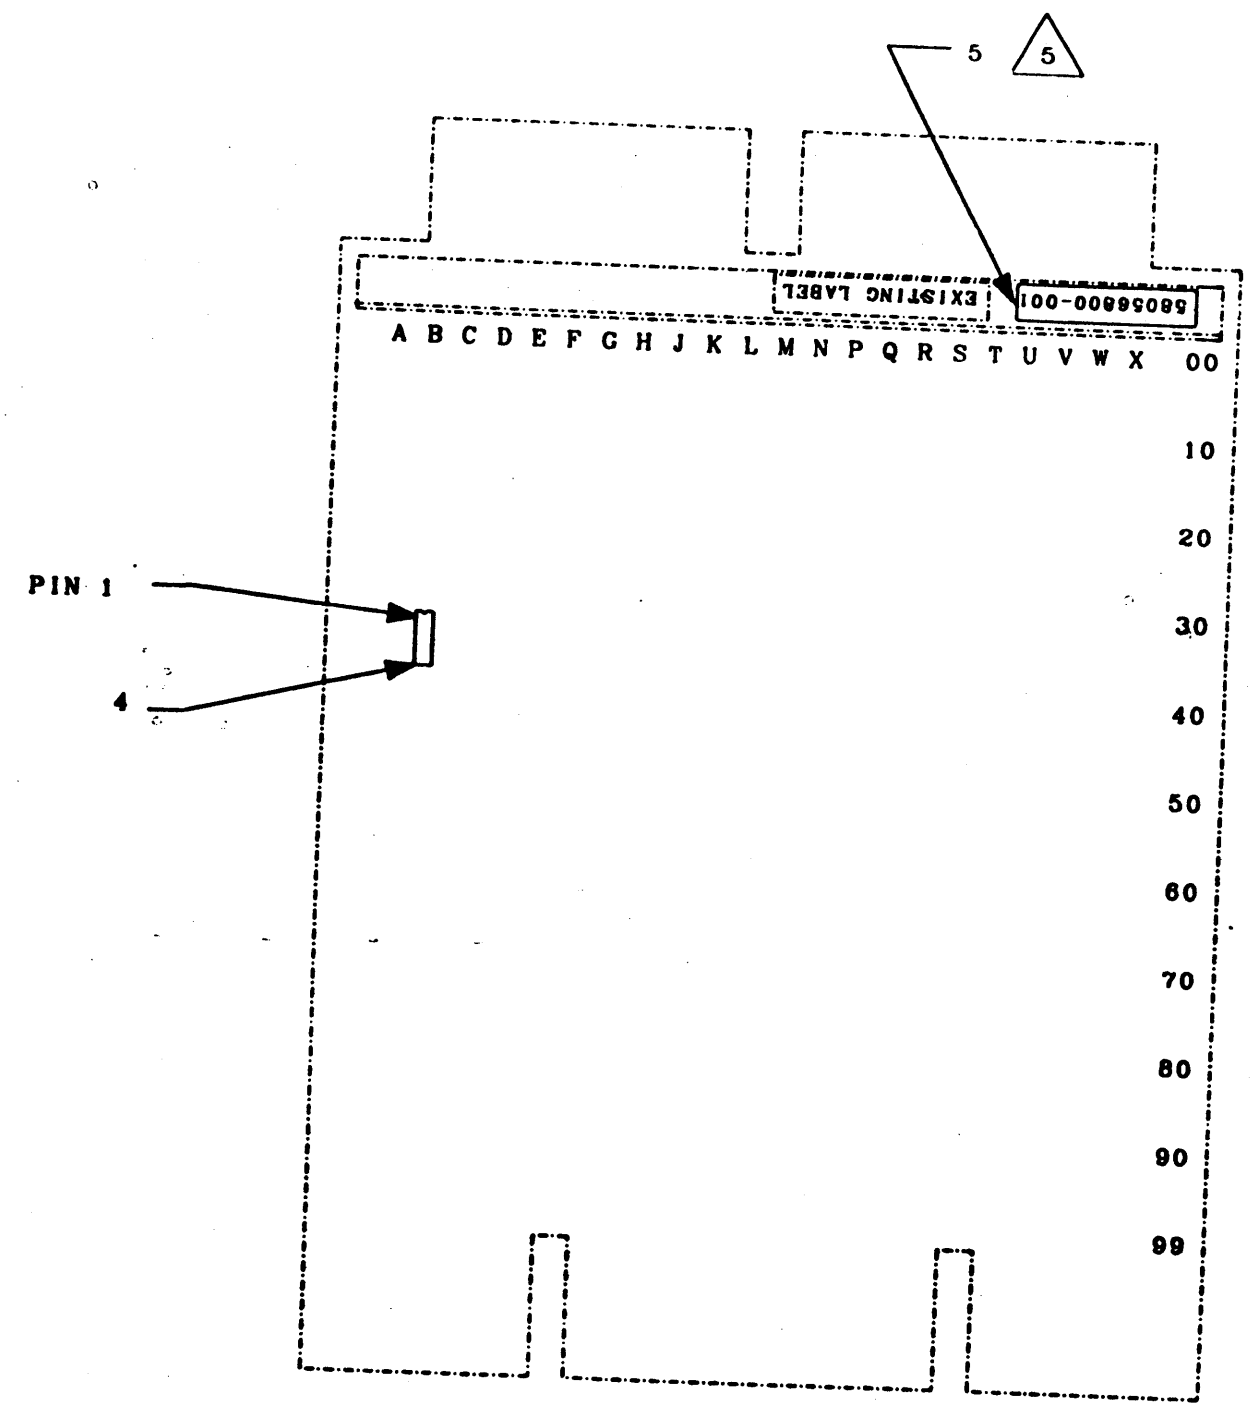

FIGURE 1
- INSTALL MARKER (ITEM 5) ON BOARD AS SHOWN IN FIG. 1.